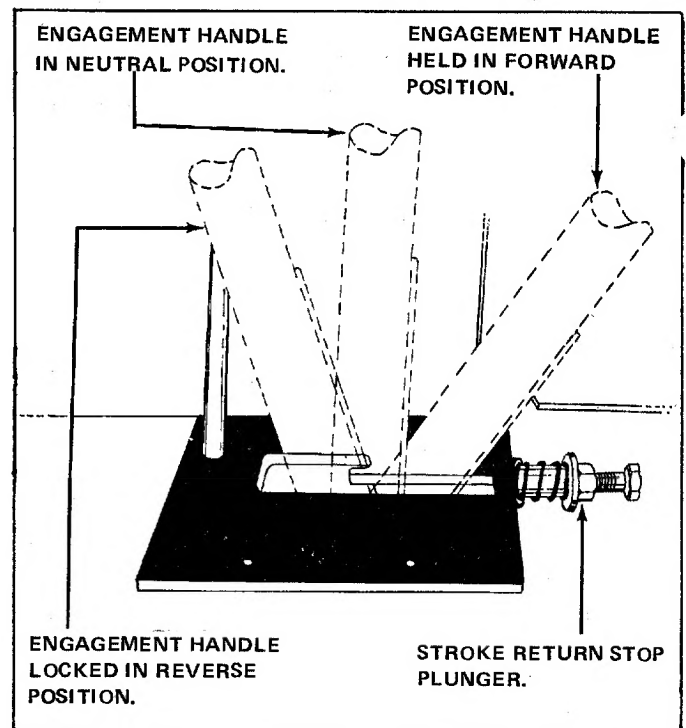

FIGURE 21
- B. Engagement handle has three positions: Forward—moves ram toward wedge. Neutral—ram stops in place. Reverse—ram returns. See figure 21.